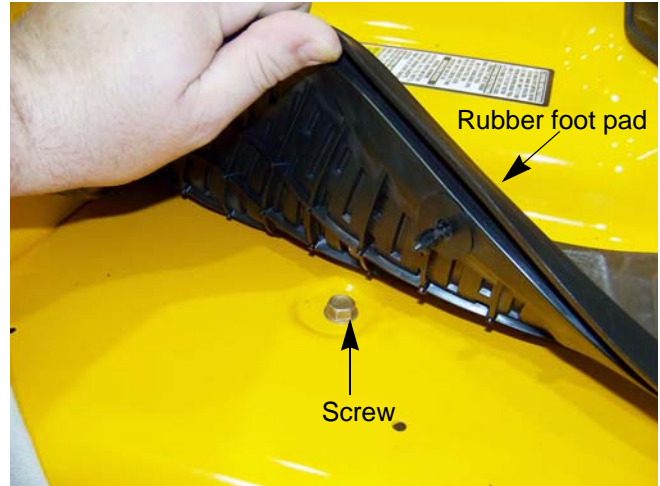

Figure 4.23
12. Gently pry up the rubber foot pad on one side of the tractor enough to gain access to the screw under it. See Figure 4.23.